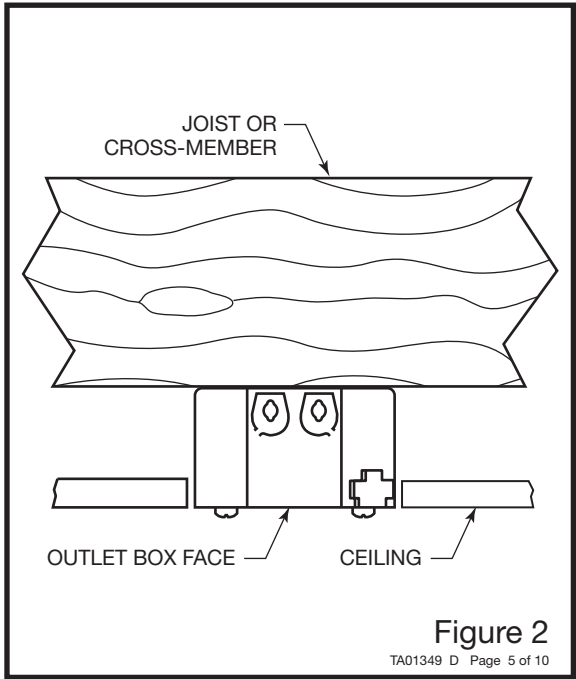

Figure 2
- 1) Locate box on ceiling joist or cross-member making sure the face of the outlet box is flush with the finished ceiling (see Figure 2).